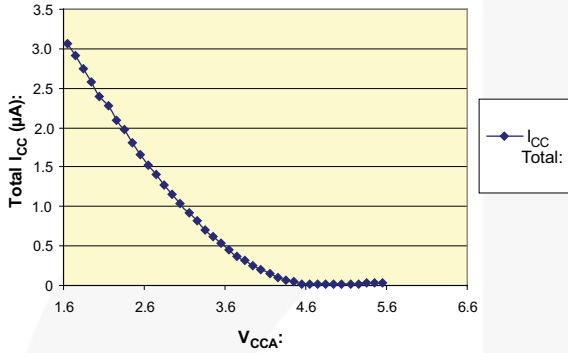
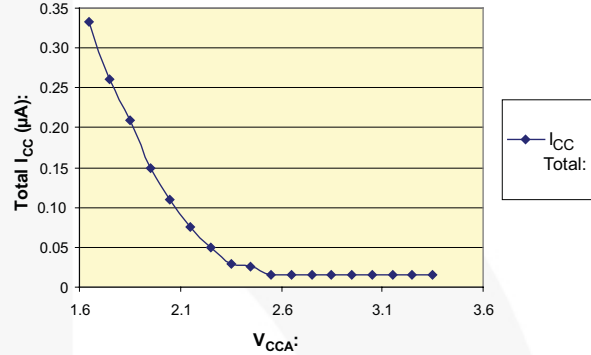

Figure 4. FXM2IC102 I_{CC} vs. V_{CCA} Sweep During no I²C Data Transactions (V_{CCB} = 5.5V. T_A = +25°C)
Figure 5. FXM2IC102 I_{CC} vs. V_{CCA} Sweep During no I²C Data Transactions (V_{CCB} = 3.3V. T_A = +25°C)
The FXM2IC102 typically consumes only 230nA during “no I²C data transactions” when V_{CCA} = 1.8V and V_{CCB} = 3.3V. *See Figure 4 and Figure 5 for more details.*
In a typical Mobile Internet Device (MID) application, I²C data transactions are idle the vast majority of the time. Therefore, it is critical that the I²C translator burns as little current as possible when no data transactions are passing across the I²C bus. Figure 4 and Figure 5 plot the typical FXM2IC102 I_{CC} performance across the entire voltage translation range during no I²C data
transactions. In Figure 4, V_{CCB} = 5.5V and in Figure 5, V_{CCB} = 3.3V.
For example, to translate from 1.8V to 3.3V (Figure 5), with no I²C data transactions present, the total I_{CC} of the FXM2IC102 is typically only 230nA. In effect, the FXM2IC102 virtually powers itself down when the I²C bus is idle.
- Figure 4 depicts the typical I_{CC} of the FXM2IC102 when translating from 5.5V on the V_{CCB} supply to a range of 1.65V – 5.5V on the V_{CCA} supply.
- Figure 5 depicts the typical I_{CC} of the FXM2IC102 when translating from 3.3V on the V_{CCB} supply to a range of 1.65V – 3.3V on the V_{CCA} supply.